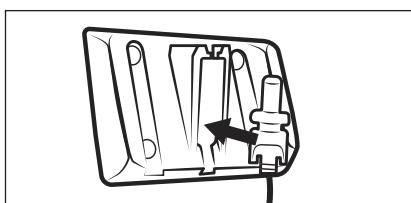

Fig. 4
- Insert the barrel plug 11 of the mains adapter 10 into the wall bracket 18 (see Fig. 4). Secure the barrel plug 11 by turning it.